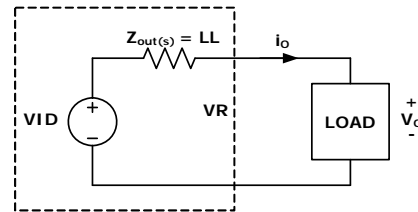

FIGURE 20. VOLTAGE REGULATOR EQUIVALENT CIRCUIT
Figure 14 shows the desired load transient response waveforms. Figure 20 shows the equivalent circuit of a voltage regulator (VR) with the droop function. A VR is equivalent to a voltage source (= VID) and output impedance $Z_{out}(s)$. If $Z_{out}(s)$ is equal to the load line slope LL, i.e. constant output impedance, in the entire frequency range, V_o will have square response when I_o has a square change.